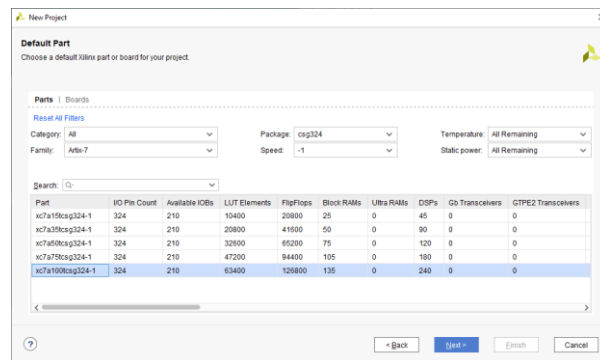

Figure 6. Default Part Form
- i. In the *Default Part* form as shown in Figure 6, select device Artix-7 FPGA **XC7A100TCSG324-1**. Then click *Next*.